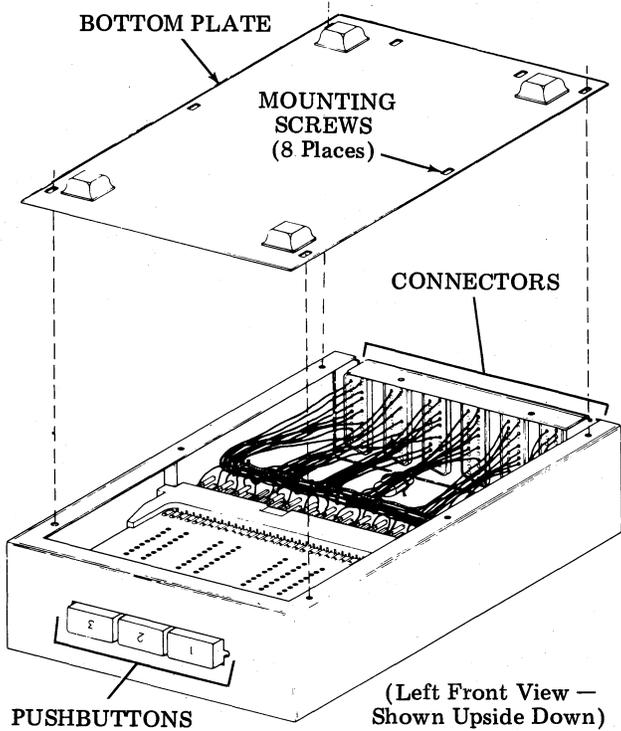

Fig. 3—Switch Assembly With Bottom Plate Removed
3.01 Visual inspection should be as follows (Fig. 3).